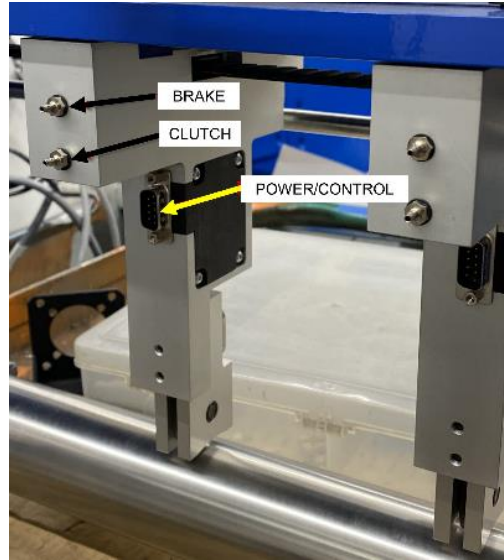

Figure 14 – AutoScore Knifeholder Cable Connections
After installing the HMI, and routing the 3 cables (Power, HMI, and COMM), it will be necessary to open the HMI to install the cables (see figure 14). It may be easier to install the cables prior to finalizing the HMI mounting location.
- 1) Power and Control Cabinet – All cable assemblies between cabinet and AutoScore carriage/HMI (Operator Interface) are disconnected at the carriage and secured to the cabinet. Customer will route and connect cables to knife holders as shown below in Figure 14.